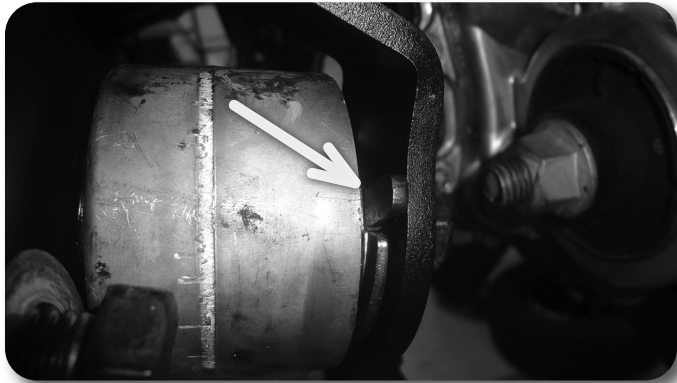

Figure 29A
39. Install the differential to the new driver's and passenger's differential brackets. Loosely attach the differential to both differential drop brackets with 9/16" x 4" bolts, prevailing torque nuts, and washers Fig 29 C & D. The passenger's side differential bracket will use a spacer on the front side between the bushing and the differential bracket Fig. 29A & B.